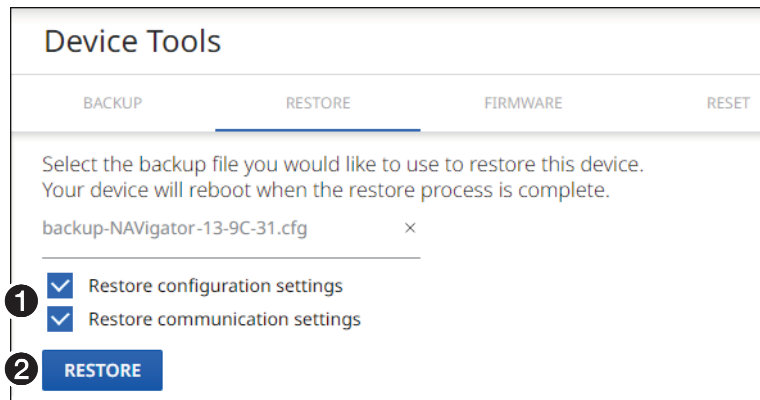

Figure 74. Device Tools – Restore Function
- Click **open** (2). The Device Tools page returns to the top (see figure 74).
- Select (click) the settings to restore (see figure 74, 1).